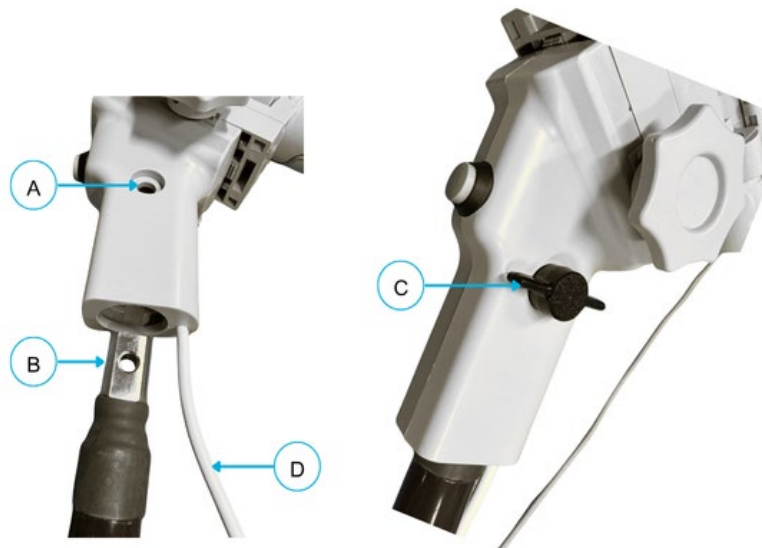

Figure 10-28: TRUS Cradle Attachment to Stabilizer Arm
1. Align the hole in the side of the TRUS Cradle (A) with the hole in the end of the Stabilizer Arm (B) (Figure 10-28).
2. Twist the Thumb Screw (C) through the holes until the TRUS Cradle is secure on the Stabilizer Arm.